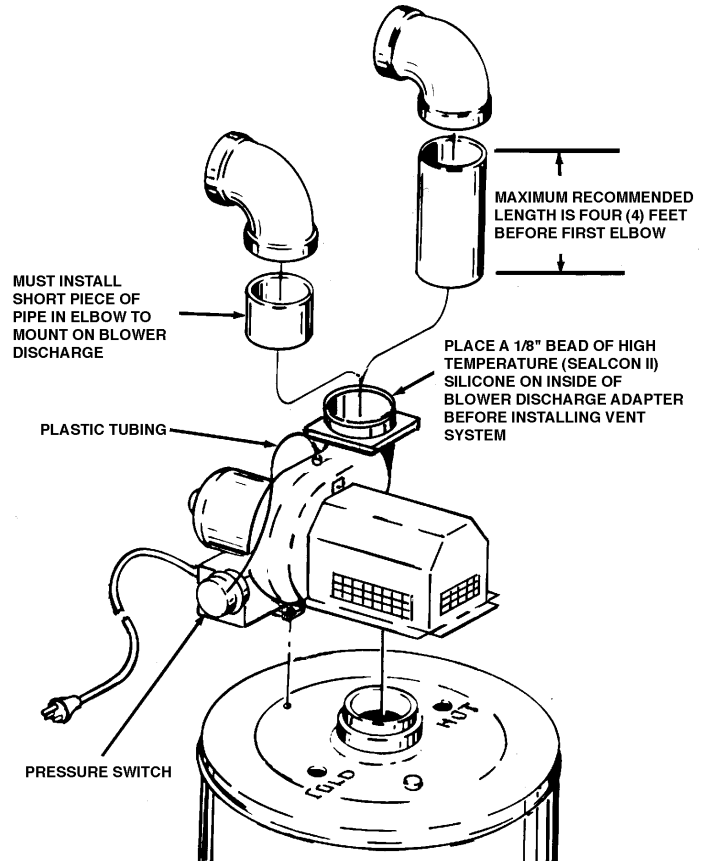

FIGURE 6
- Layout the total vent system to use a minimum of vent pipe and elbows. Take into consideration that an elbow will be necessary to make the first vent pipe connection to the power venter outlet (see Figure 6).
- This water heater is capable of venting the flue gases the equivalent of thirty (30) feet of 3 inch pipe or sixty (60) feet of 4 inch pipe as listed in Table 1.
**NOTE:** The equivalent feet of pipe listed above are exclusive of the "Tee" termination. That is, the first elbow and the termination "Tee", with installed screens, are assumed to be in the system and the remainder of the system must not exceed the thirty (30) equivalent feet of 3 inch pipe or sixty (60) equivalent feet of 4 inch pipe.
- The blower discharge adapter is made to accept only straight sections of 3" pipe. To start a minimum of 2 inches of 3" pipe must be glued into the blower discharge (See figure 6).
5. The blower discharge adapter is made to accept only straight sections of 3" pipe. To start off with an elbow, a short section of the furnished pipe, a minimum of 2 inches, must be cut and glued into the end of the elbow that will mount on the discharge adapter (see fig. 6).